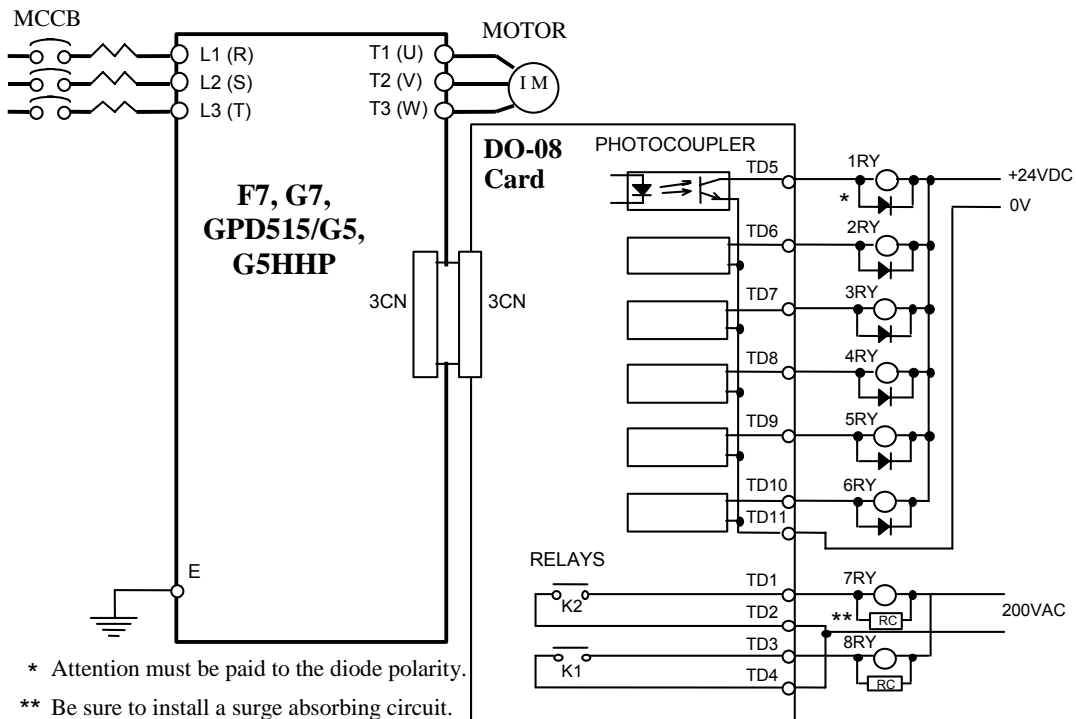

Figure 2. DO-08 Interconnection Diagram
6. **Wiring:** Refer to Figure 2 and Table 2. Make wire connections between the DO-08 card and the drive, as well as all peripheral devices. Observe the following: